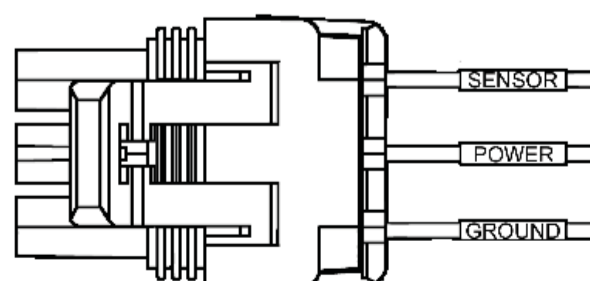

Figure 20
- 2) Locate one of the 3 Pin adapters. (Figure 20)